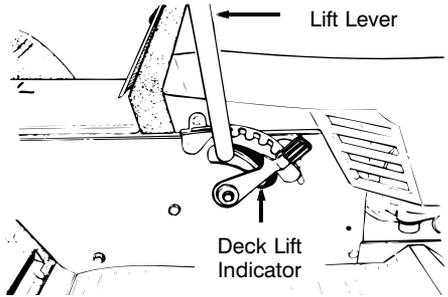

FIGURE 11
The deck lift indicator marks the position being used for the lift lever. Select the lift lever position desired, press the indicator lever outward, move it to the position immediately below the lift lever and release the indicator lever. See figure 11.
**NOTE:** For the lowest possible cutting height, position the deck lift indicator to the last notch (as shown in figure 11). Lower the lift lever until it is stopped by the deck lift indicator.